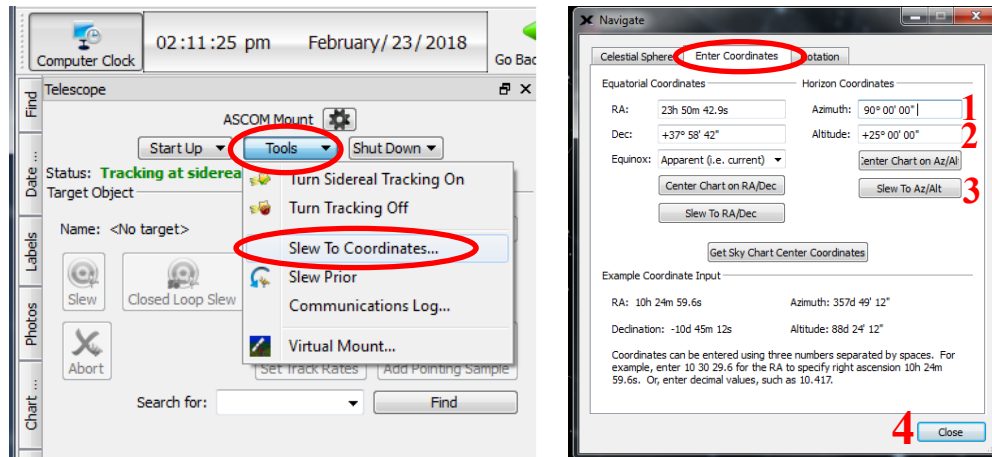
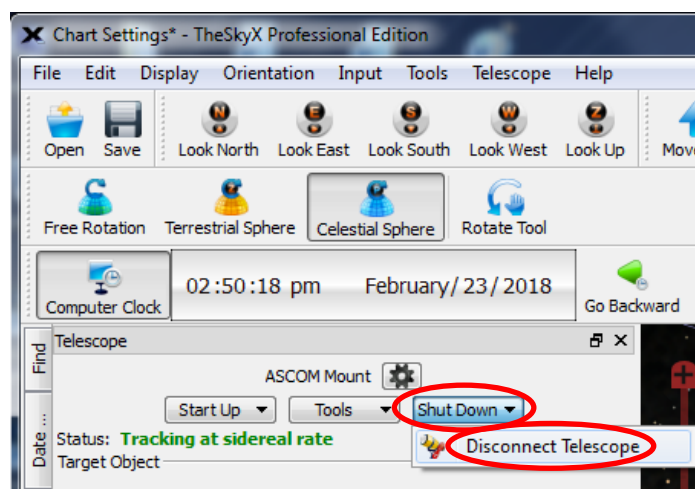

Fig. 2.12. The Tools menu (left) and the Navigation menu (right) of “TheSkyX” software.
Fig. 2.16. Disconnecting the telescope from "TheSkyX" software.
- ii. Click on the “Tools” tab (Fig. 2.12 left) and select “Slew to coordinates...” (Fig. 2.12 left). The “Navigate” menu opens as a new window (Fig. 2.12 right).
- iii. In the “Navigate” menu (Fig. 2.12 right) click on the “Enter Coordinates” tab and set to the Horizon coordinates boxes: Azimuth=90° and Altitude=25° (No 1-2). Press “Slew to Az/Alt” (No 3). This will move the telescope to a position, where the cameras multi plug can be easily reached.
- i. Click on the "Tools" tab (Fig. 2.12 left) and select "Slew to coordinates..." (Fig. 2.12 left). The "Navigate" menu opens as a new window (Fig. 2.12 right).
- ii. In the "Navigate" menu (Fig. 2.12 right) click on the "Enter Coordinates" tab and set to the Horizon coordinates boxes (right side): Azimuth=90° and Altitude=25° (No 1-2). Press "Slew to Az/Alt" (No 3). This will send the telescope to a position, where the cameras multi plug can be easily reached.
- iii. On the "Tele..." tab (Fig. 2.12 left) click on the "Shut Down" button and select "Disconnect Telescope" (Fig. 2.16).